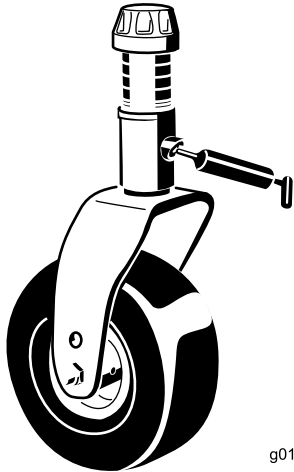

Figure 16
2. Lubricate the castor-arm bushings (Figure 16).